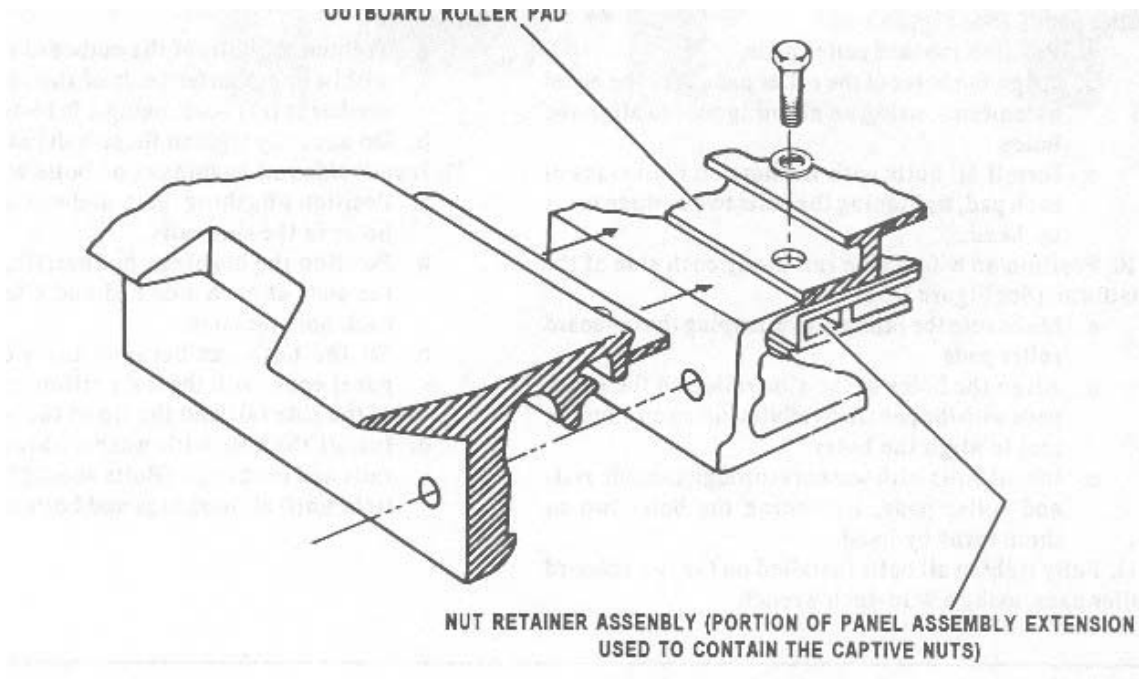

Figure 3-51
10. Position an 8-foot side rail along each side of the platform. (See Figure 3-51)